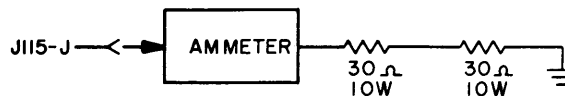

Figure 5-3. Power Supply Board Test Setup
c. POWER SUPPLY BOARDS Z303 AND Z304 (see figure 5-3). Align the power supply boards as follows:
- (1) Plug in ac line cord. STANDBY indicator shall illuminate amber.
- (2) Position ON/STANDBY switch to ON. POWER indicator shall illuminate red and STANDBY indicator shall extinguish.
- (3) On board Z303, adjust potentiometer R3 and R12 fully clockwise.
- (4) Connect voltmeter between J304-G (ground) and J304-A. Voltmeter shall indicate approximately 40 vdc.
- (5) On board Z303, connect voltmeter to J303-E. Voltmeter shall indicate approximately 20 vdc.
- (6) Connect voltmeter to J303-A. Voltmeter shall indicate approximately 40 vdc.
- (7) Connect voltmeter between J303-F and ground. Adjust potentiometer R8 to obtain an indication of 12.3 vdc on voltmeter.
- (8) Remove voltmeter from J303-F and connect oscilloscope. Maximum ac ripple shall not exceed 5 mv.
- (9) Adjust potentiometer R3 until voltage level starts to drop, then back up slightly to obtain full voltage.
- (10) Connect voltmeter between J303-4 and ground. Adjust potentiometer R18 to obtain an indication of 24.0 vdc on voltmeter.
- (11) Remove voltmeter from J303-4 and connect oscilloscope. Maximum ac ripple shall not exceed 2 mv.
- (12) Adjust potentiometer R12 until voltage level starts to drop, then back off to obtain full voltage.
- (13) Connect voltmeter between J301-E and ground. Voltmeter shall indicate 30 vdc  $\pm$  1 vdc.
- (14) Position ON/STANDBY switch to STANDBY.
- (15) Position METER switch to Q1.
- (16) Connect ammeter to J115-J as shown in figure 5-3.
- (17) Adjust potentiometer R106 (located at rear of METER switch) for an equal indication on MONITOR meter and voltmeter.